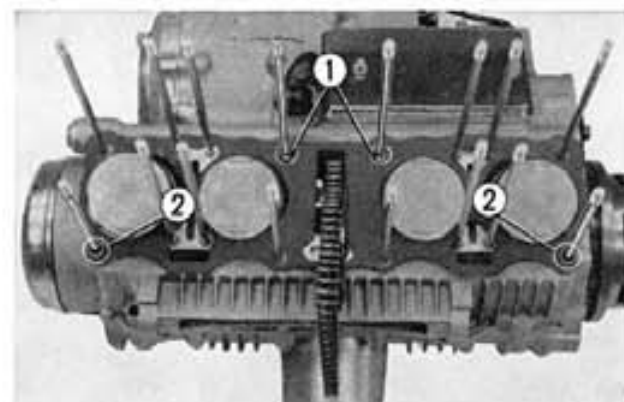

Fig. 3-36 ① "O" rings
2. Assemble the gasket, the two dowel pins (on both side of the exhaust), two O rings (on inner side of the inlet) and then install the cylinder being careful not to damage the piston or the piston rings. The work can be facilitated by using the piston ring compressor (Tool No. 07954-3000000) and the piston base (Tool No. 07958-3000000). (Fig. 3-36)